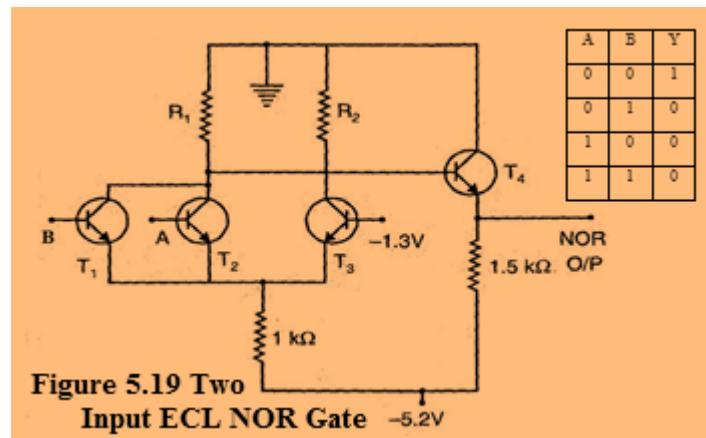

Figure 5.19 Two
**Two Input ECL NOR Gate:** The circuit diagram of two inputs ECL NOR gate is as shown in Figure 5.19